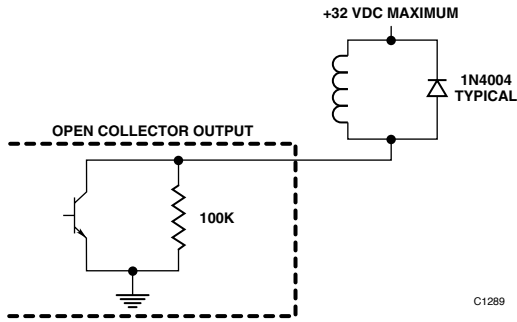

Figure 6—Open Collector Output with Inductive Load and Transient Suppression Device
Base Controller – Connections to open collector transistor outputs are made at terminals 10, 12, 14, and 16. Terminals 9, 11, 13, and 15 are not used. See Figure 6 for an example of a typical connection to an open collector transistor output.
*External equipment that can generate transients when switching (such as relays) **must have a transient suppression device (diode) properly connected across the coil at the time of installation. This will safeguard the output transistors of the controller against possible damage. Figure 6 illustrates an inductive load with a diode used for transient suppression.***